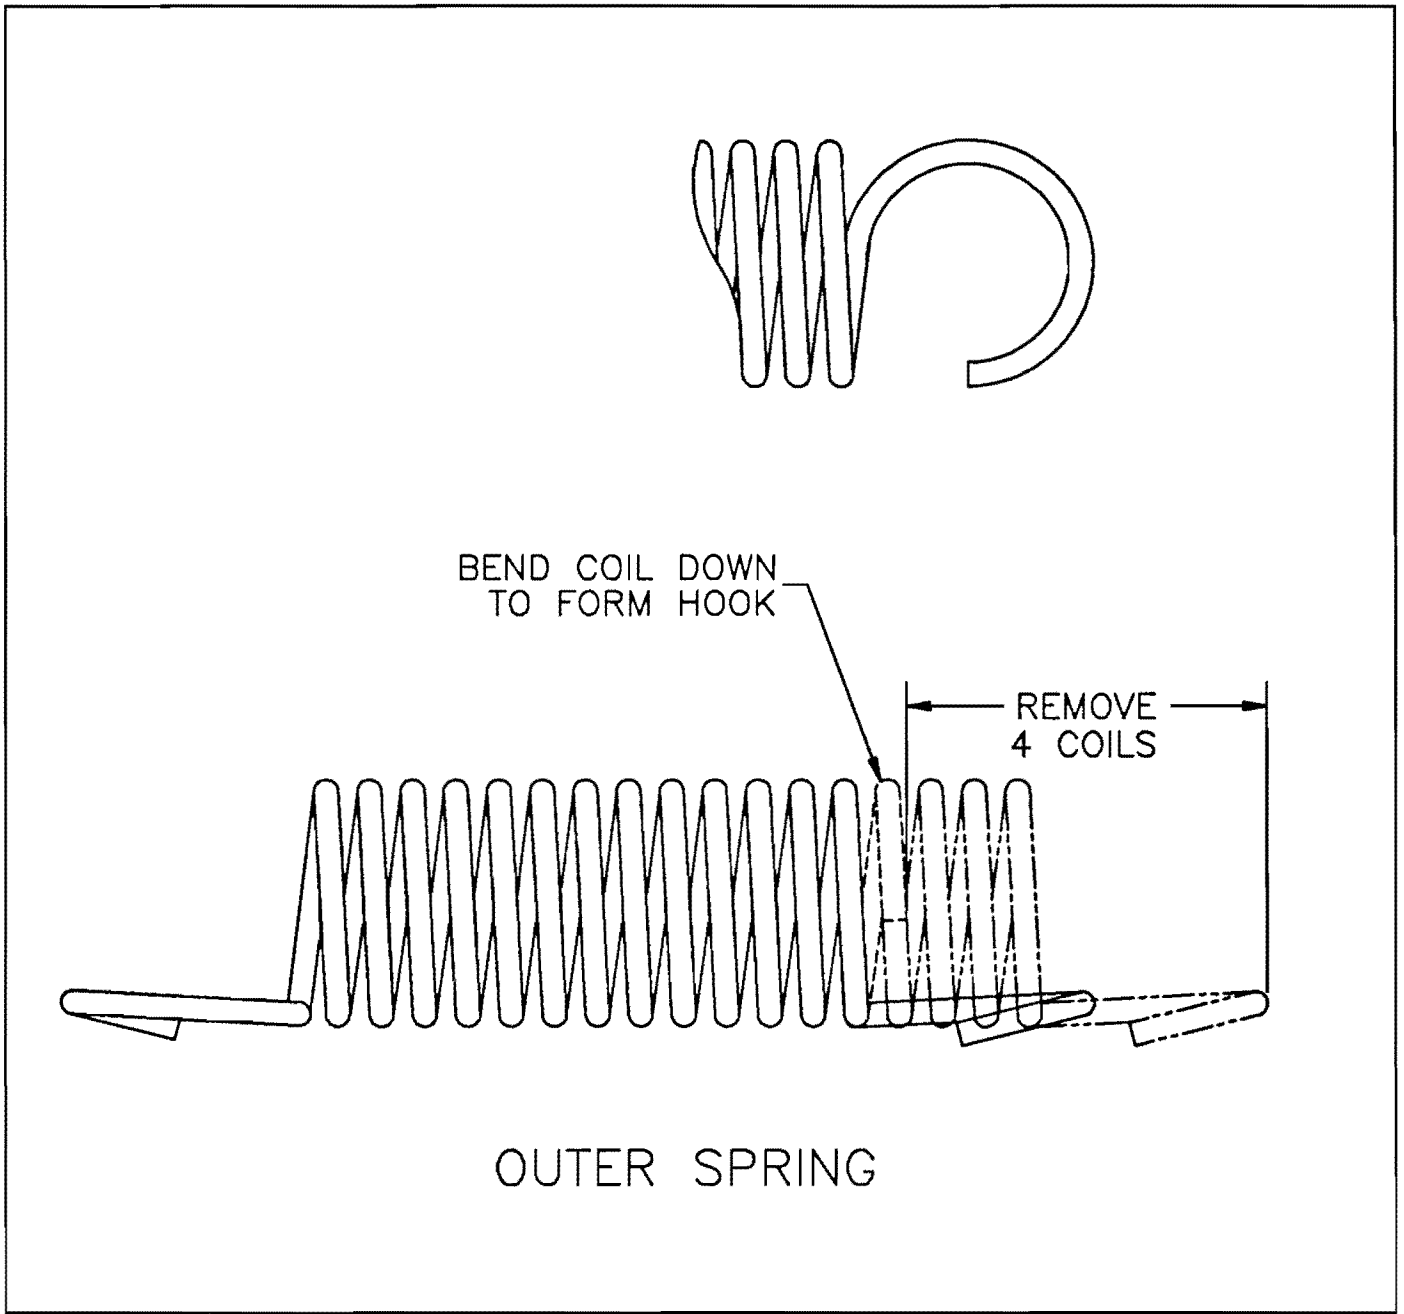

Figure 3
- 2. Modify the outer spring by removing four coils (counting the formed hook) from the spring. An abrasive cut-off wheel is suggested to remove the coils. The last coil on the spring must then be formed into a hook by bending it down to match the opposite end of the spring (see Figure 3).